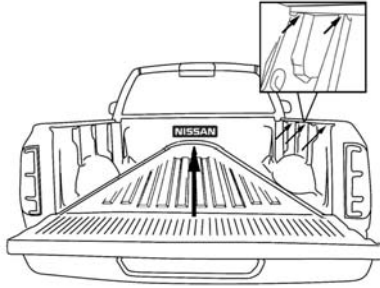

Figure 6
- 5) While pushing up on the center of the bedliner floor, hook the passenger's side of the bedliner under the other side rail. Be sure to install both sidewalls of the bedliner entirely under the side rails of the truck. (See Figure 6). Two people are necessary in order to perform this operation properly.